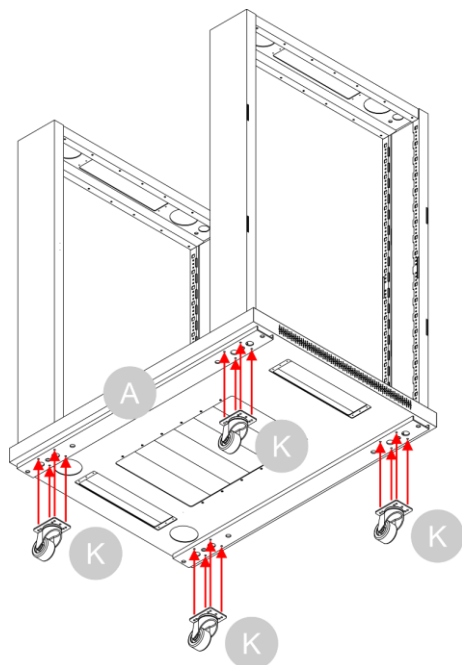

Fig. 21
05) Use a **hex key (S)** to attach the 4 **wheels (K)** to the bottom of the **bottom plate (A)** with 4 x 4 **screws (O)**, as shown in Fig. 21.